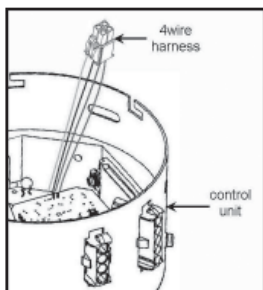

Figure 11a
6. Check phase to phase resistance between each of the three phase wires (red, blue, and yellow) in the harness connector [Figure 11a]. Resistance levels between any two wires should be greater than 100K.